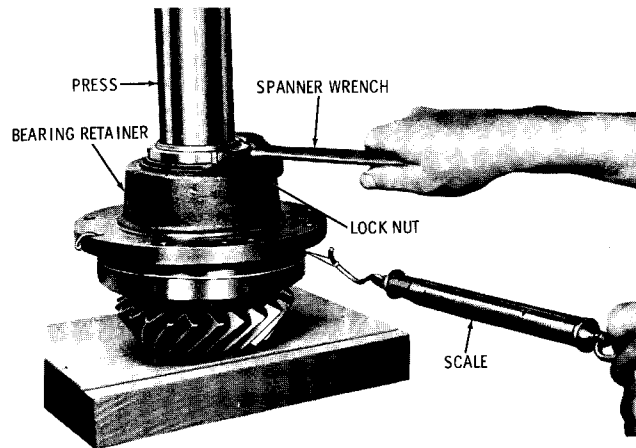

Fig. 6-12. Adjusting bevel pinion gear bearings (VH, VSI series)
(6) Support the bevel pinion gear assembly (fig. 6-12) in a press, on a wooden block. Apply pressure on the end of the bevel pinion gear to keep the assembly from turning while tightening the nut.
(7) Adjust bearing preload as follows:
(1) If removed, install (later models) oil baffle 29, convex side first, into the smaller bearing bore of bearing retainer 30. Install bearing cups 27 and 32 into the retainer, using a suitable driver and a press. Press bearing cone 33 onto the bevel pinion gear.
(2) Install the pinion gear (with bearing cone 33) into bearing retainer 30. (On later model transmissions, then install shims 28 onto the pinion gear.)
(3) Press bearing cone 26 onto the pinion gear.
(4) Install oil pump drive gear 24 onto input shaft 23. (On earlier model transmissions, then install shims 46 onto input shaft.)
(5) Install the input shaft and drive gear into the bevel pinion gear.
(6) Install locknut 35 onto input shaft 23 and tighten the locknut while checking the bearing preload ((7), below).
(7) Wrap a strong cord around the bearing retainer and, holding the input shaft, pull on a horizontal line with a spring scale, similar to procedure on VH series (fig. 6-12). The rotating (not starting) pull should not exceed $2\frac{3}{4}$ pounds at zero end play. The bearing preload is obtained by increasing or decreasing thickness of shim pack. Proper shimming will permit the locknut to be tightened to 350 to 400 pound feet torque without exceeding zero end play or $2\frac{3}{4}$ pound preload.
(8) After tightening, stake the locknut to the input shaft by shearing the lip of the locknut and driving it against the flats on the shaft.
(9) Install oil pump idler gear pin 19 (B, foldout 9) into retainer 30. Install oil pump idler gear assembly 14, thrust washer 13 and snapping 12 onto gear pin 19.